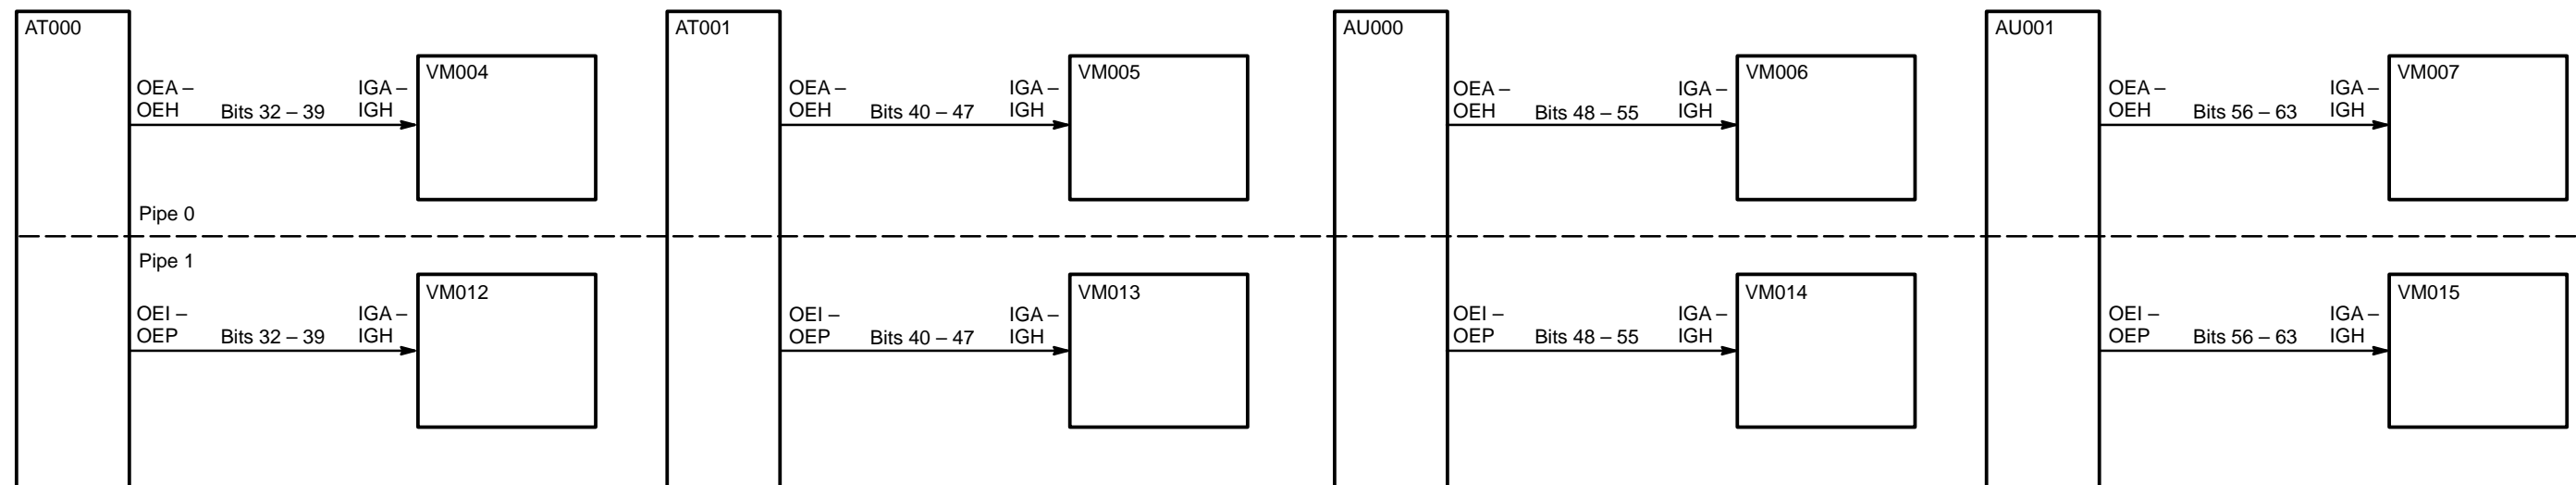

Figure 38. S Register to Vectors
- Figure 38 – vector register write block diagram (pipe 0)